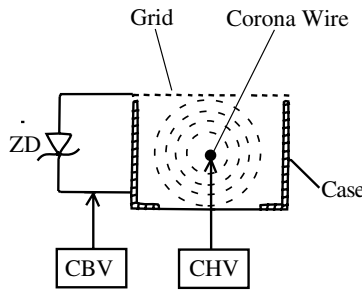

Fig. 4-11
4.2.3.1.1 Structure of the Charger Unit (see Fig. 4-11).
The charger unit is located as shown in Fig. 4-11. The charger unit consists of the case, corona wire and grid (see Fig. 4-11). The grid is constructed to allow for uniform charging.